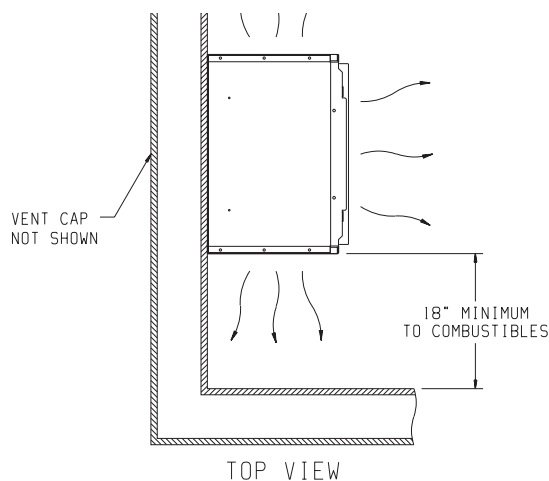

Figure 4
4. The wall in which the furnace is recessed has (0) zero clearance to the furnace sides and top.
8. Floor and rear wall clearance is (0) zero inches.
9. Clearance of 18 inches is required to sidewall or combustible material when flush mounted SOR-1, side outlet register is used. See Figure 4.